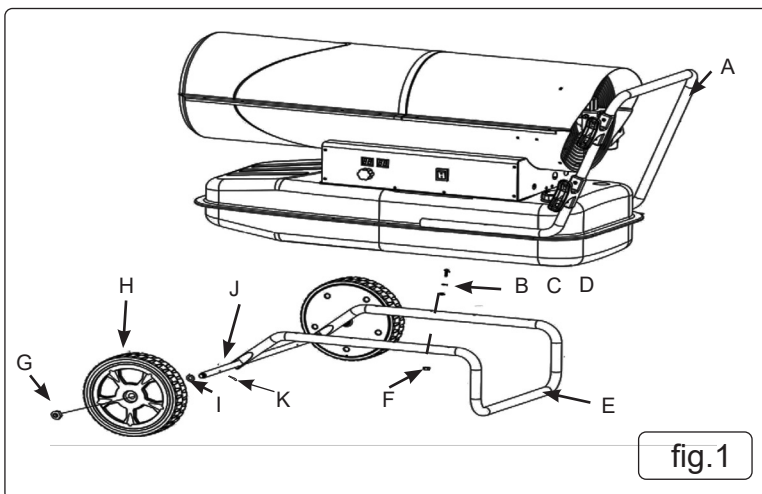

fig. 1
- 5.3. **ASSEMBLY** (fig.1)
To assemble the heater, proceed as follows (see Fig. 1):